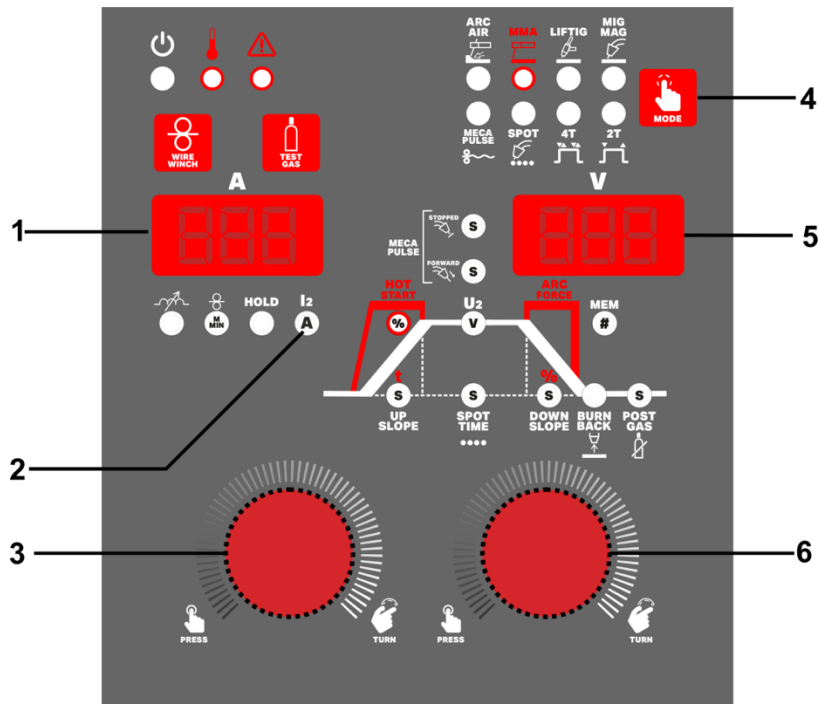

Fig.11
- Select TIG welding mode with 2 Times torch mode (when TIG and 2T LEDs are on), with 4 Times torch mode (when TIG and 4T LEDs are on) or with SPOT mode (when TIG and SPOT LEDs are on) on mode selector 4 (Fig.11).
** 4T - When the torch trigger is pressed, the gas begins to flow until the welder makes the ignition by LIFTIG (see Fig.11) and the arc is established. You can release the trigger. The current rises according to the UPSLOPE time for the adjusted value of I_2 . When the trigger of the torch is pressed, the current decreases according to the adjusted time of DOWNSLOPE, the arc extinguishes, and the POST GAS time begins.